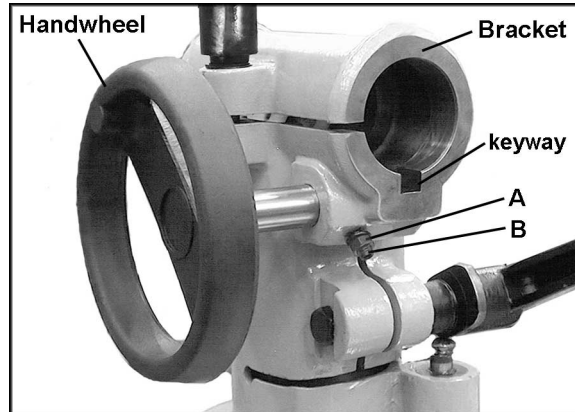

Figure 3
10. Loosen the hex nut (A, Figure 3) with a 12mm wrench, and back off the set screw (B, Figure 3) with a 4mm hex wrench, until the shaft of the handwheel can be inserted freely into the hole in the bracket (Figure 3). The handwheel should be positioned so that the pinion on its shaft is approximately centered with the keyway of the bracket.
11. Turn the set screw (B, Figure 3) clockwise into the shaft just enough to prevent the handwheel from slipping out. Do not overtighten the set screw. Tighten the hex nut (A, Figure 3).